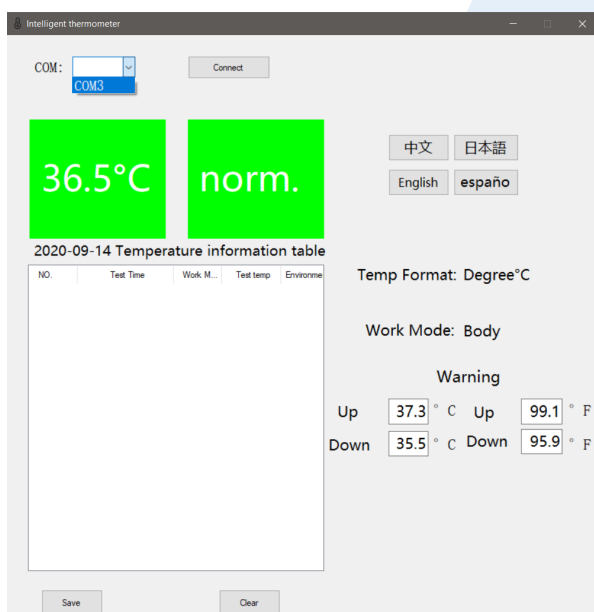

Figure 1
3. Select “COM” from the drop-down list and “Connect” to the applicable port that matches your USB input (Figure 1). Once connected, the thermometer will automatically convert each reading to data.